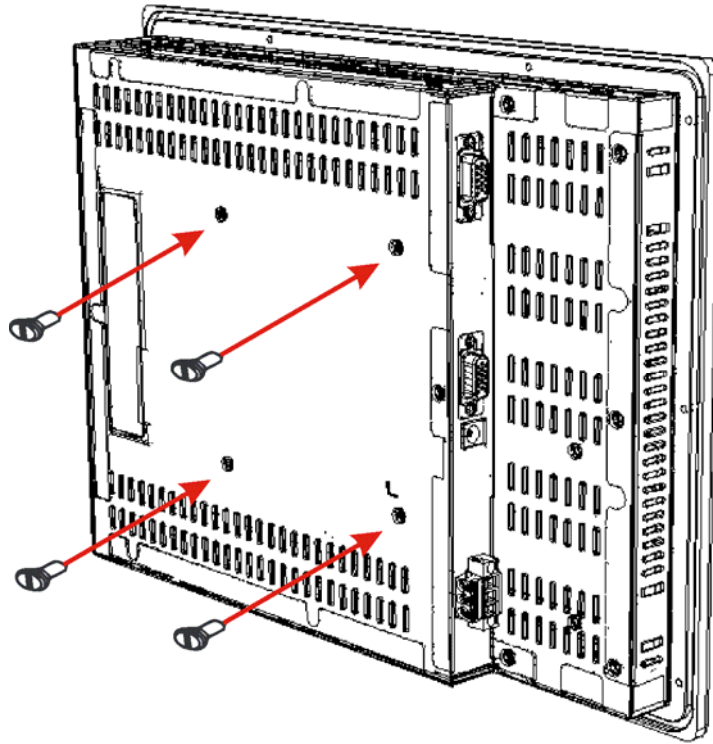

Figure 5-28: Monitor Support Screws
- Step 6:** Insert the four monitor mounting screws (M4 screws) provided in the wall mounting kit into the four screw holes on the rear panel of the monitor and tighten until the screw shank is secured against the rear panel (**Figure 5-28**).